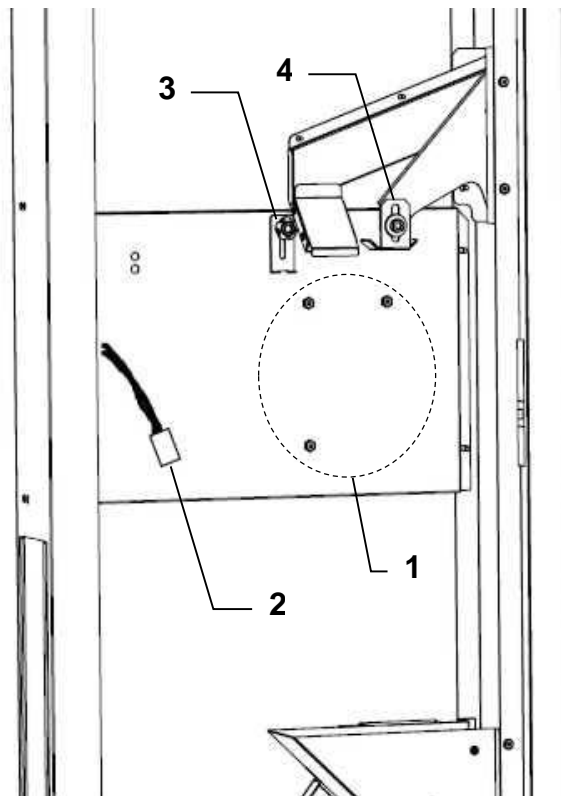

Figure 4.1
- Hook the change giver having its 3 rear holes fitted together with the 3 supports placed on the fixing plate (Figure 4.1 /1);
- Connect the change giver wiring with the adapter wiring coming from the board (Figure 4.1 /2);
- Adjust the position of the change giving lever unscrewing the proper screw (Figure 4.1 /4)
- Fix the change giver using the proper bracket (Figure 4.1 /3);